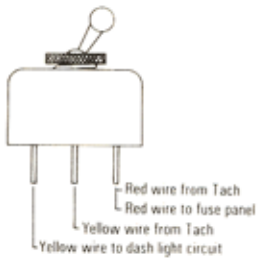

Figure 7
A) If experience indicates that the dimming feature is desirable because of tachometer location, a single pole double throw switch with a rating of 1 amp or more at 12 volts DC, wired as illustrated in Figure 7, can be incorporated.